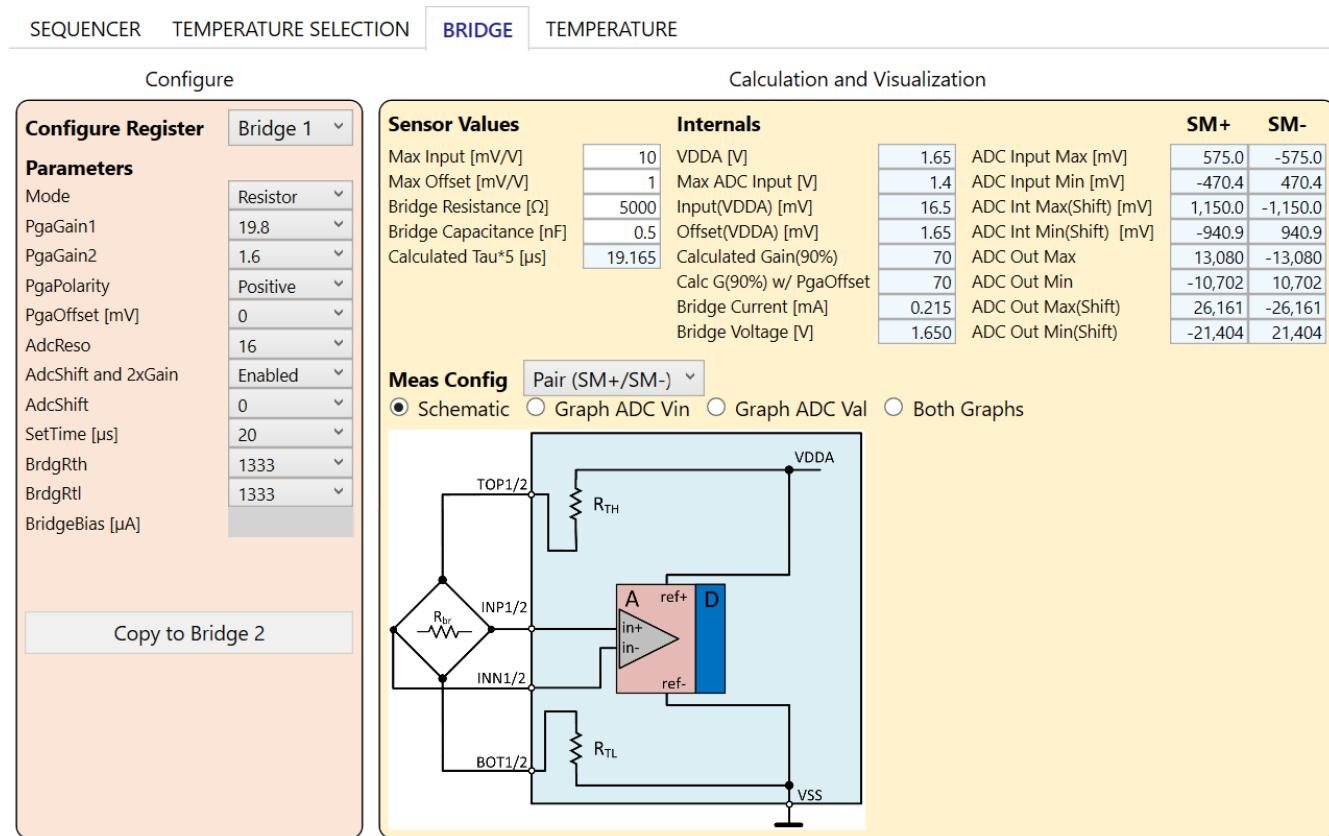

Figure 66. Resistor Mode
- Resistor: internal voltage supply (VDDA, refer to *ZSSC3281 Datasheet* document) with configurable internal series resistors, see Figure 66.